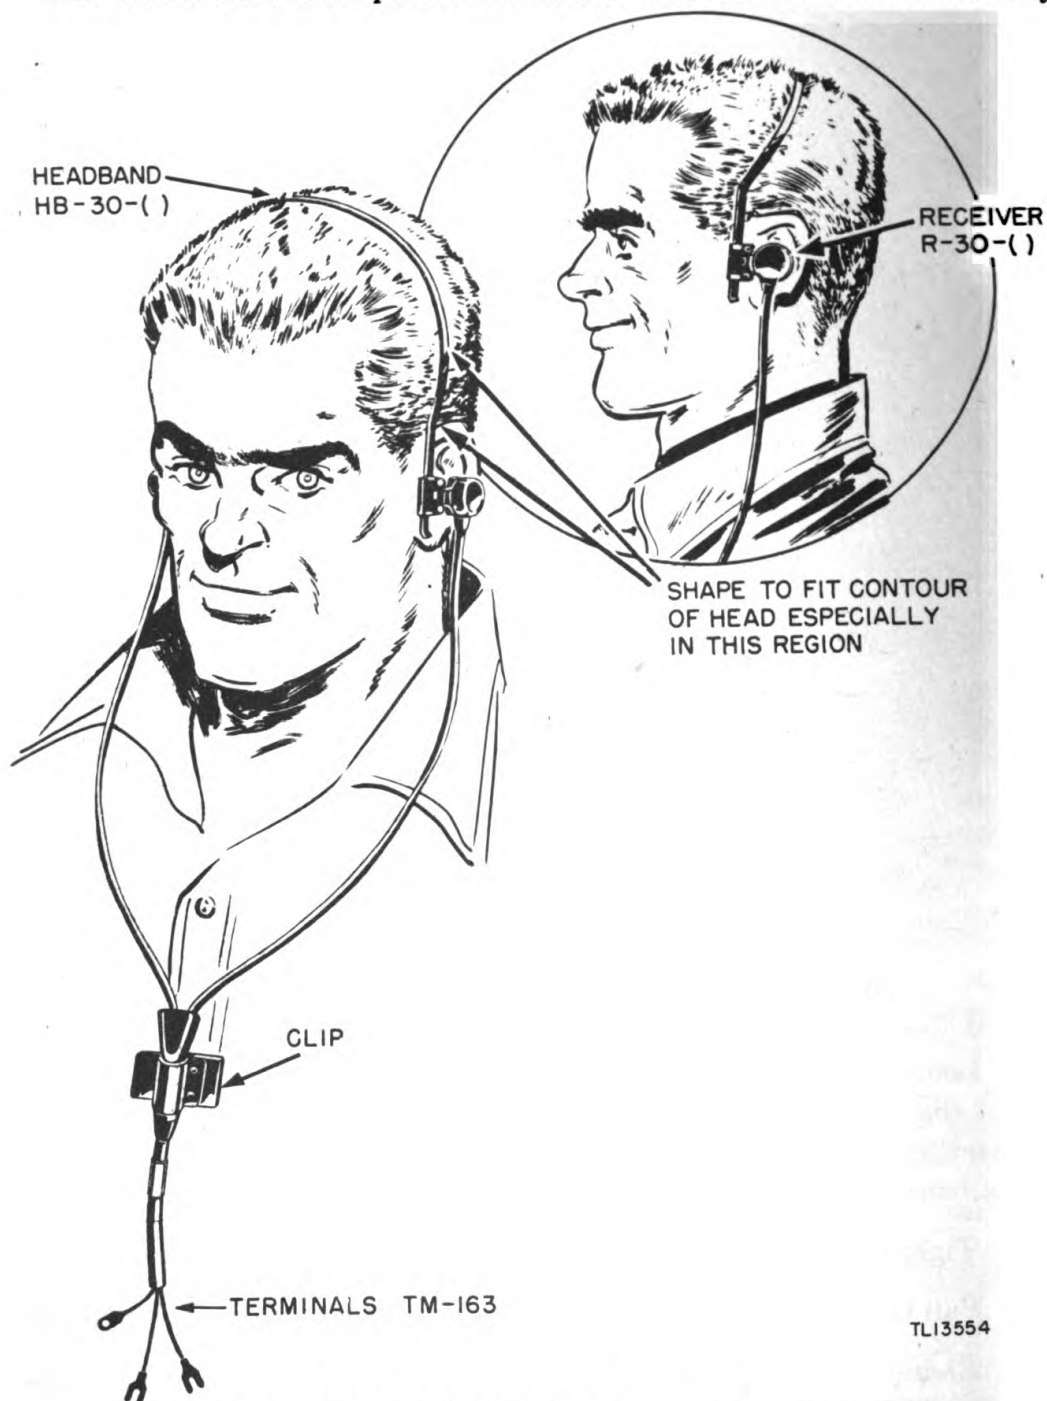

Figure 26. Headset HS-30-(), as worn by operator.
b. Headset HS-30-() (fig. 26) is installed by inserting Plug PL-55 into the jack marked PHONES.